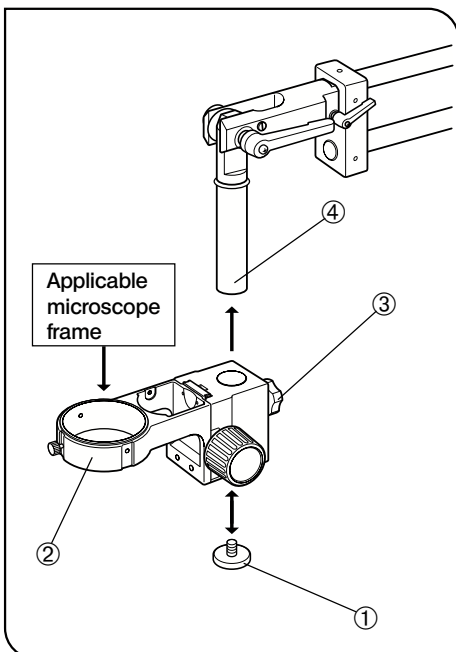

Fig. 15
**2** Installing SZX Stand Arm SZ2-ST5 (Fig. 15)
1. Remove the microscope body drop prevention screw ①, loosen the clamping knob ③ of the SZ2-ST5 ②, attach the SZ2-ST5 to the mount shaft ④ and tighten the clamping knob ③.
2. Screw in the microscope body drop prevention screw ① tightly using a coin.